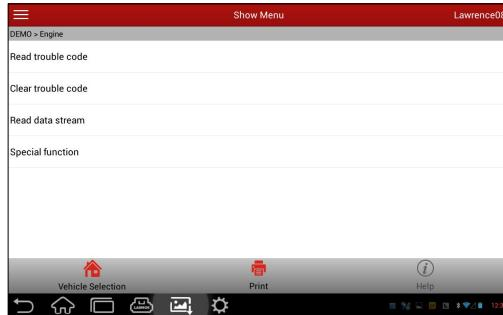

Fig. 5-19
4. Tap “Engine”, the system will jump to the function menu. See Fig. 5-19.